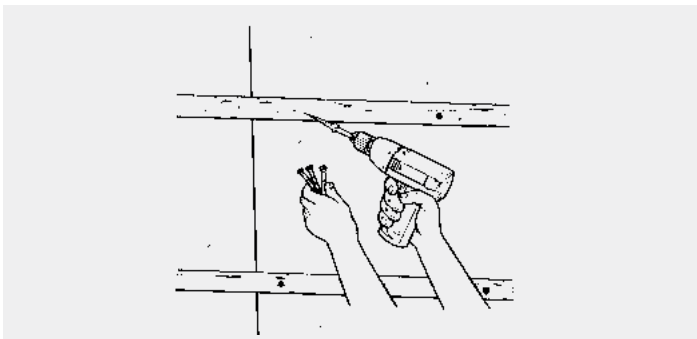

Figure 5.
3. Install 3/4" furring strips either 16" or 24" on center, vertically or horizontally, using mechanical fasteners. With electric drill and masonry bit, drill holes through the furring strips 1-1/2" into the block wall. See Figure 5. Concrete fasteners should be longer than the insulation board thickness. (To secure strips to wall, use three or four screws per 8' length.)